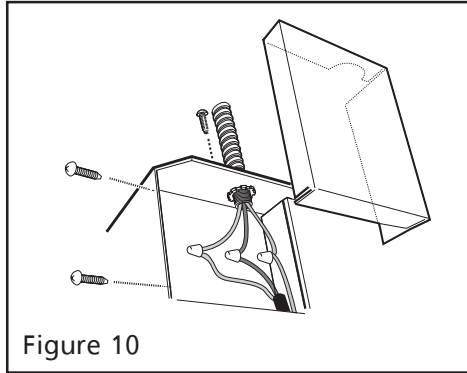

Figure 10
16. Remove j-box cover as shown in Figure 10.
19. Connect black wire from service panel to black or red in junction box, white to white and green to green-yellow. See Figure 10.